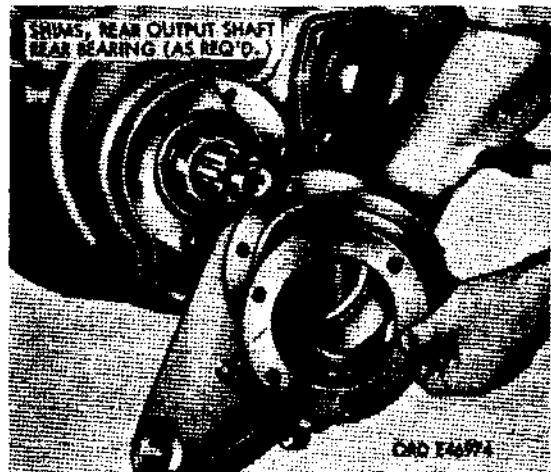

Figure 215. Removing rear output shaft bearing cover
(1) Remove rear bearing covers.
- (a) Remove six cap screws and remove rear output shaft rear bearing cover (fig. 215). Take special care to protect shims on removal.